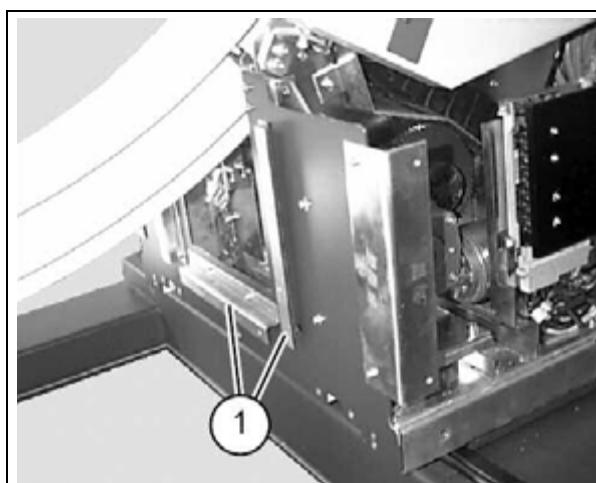

Fig. 30: Retaining rails
- Remove the retaining rails (\(1/Fig. 30 / p. 63\)) for the cover plate.